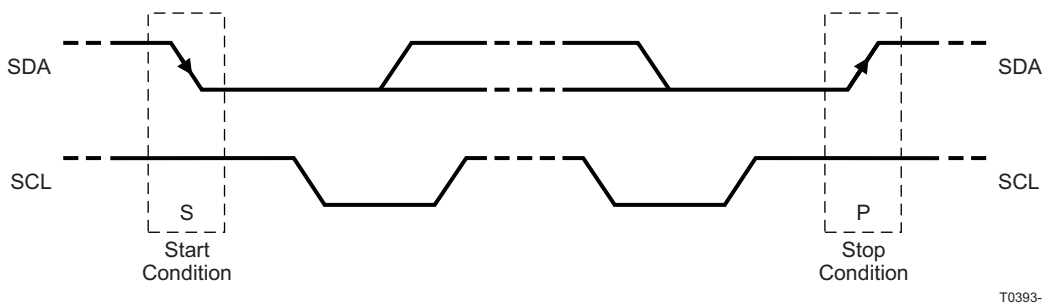

Figure 50. I²C Start and Stop Conditions
The basic I²C start and stop access cycles are shown in Figure 50.
- The *master* initiates data transfer by generating a *start condition*. The *start condition* is when a high-to-low transition occurs on the SDA line while SCL is high, as shown in Figure 50. All I²C-compatible devices should recognize a *start condition*.
- To signal the end of the data transfer, the master generates a *stop condition* by pulling the SDA line from low to high while the SCL line is high (see Figure 50). This releases the bus and stops the communication link with the addressed slave. All I²C compatible devices must recognize the stop condition. Upon the receipt of a *stop condition*, all devices know that the bus is released, and they wait for a *start condition* followed by a matching address.